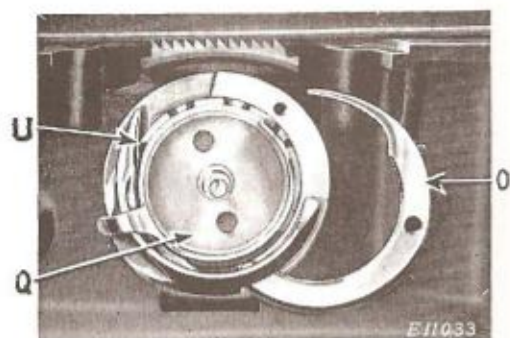

FIG. 28. GIB TURNED ASIDE FOR REMOVAL OF BOBBIN CASE BASE
**To Remove and Replace Bobbin Case Base**—Remove the throat plate and take out screw (P, Fig. 26) so that the gib (O, Fig. 28) can be displaced as shown in Fig. 28. Turn the bobbin case base so that the small point (U, Fig. 28) on the bobbin case base is beneath the point of the sewing hook, as shown in Fig. 28, and take out the bobbin case base (Q, Fig. 28). To replace bobbin case base, reverse the operation.